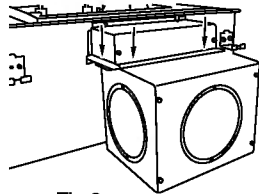

Fig.3
- (4) Connect the external air intake ducting to the flange firmly using the four supplied 4 × 10 PTT screws (see Fig.3). Air leaks may occur if the ducting is not fitted correctly.